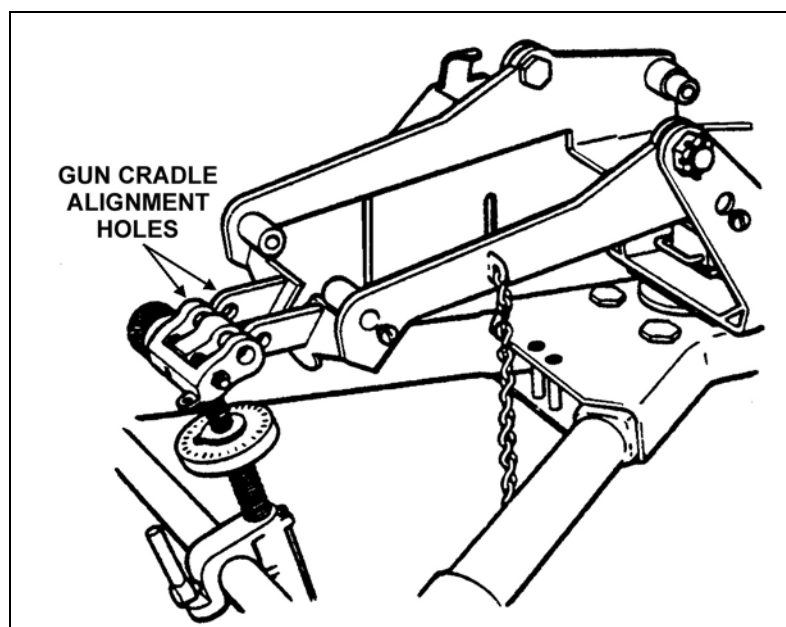

Figure 3-6. Alignment of gun cradle to T&E mechanism.
- (3) Align holes in the upper elevating screw yoke of the T&E mechanism with the rear holes in the gun cradle (Figure 3-6).